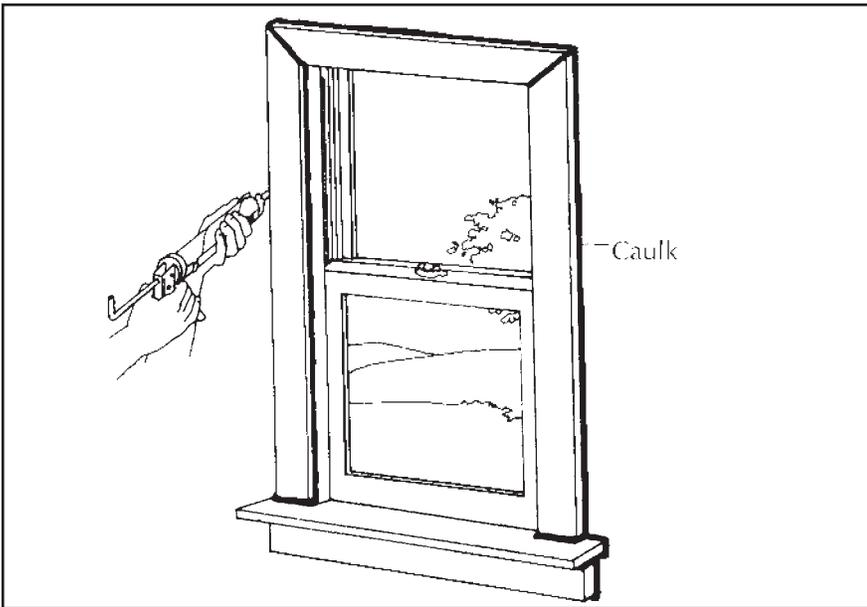

Figure 3
**Apply caulk on the inside,** where the window frame meets the wall (see Figure 3), to seal another potential source of air leaks. Caulk can also be applied between the frame and sash on permanent non-sliding sections. Although exterior caulking is important for weatherproofing, it does little to save energy. Interior caulking at window and door penetrations, on the other hand, can have a major effect on energy use and household com-